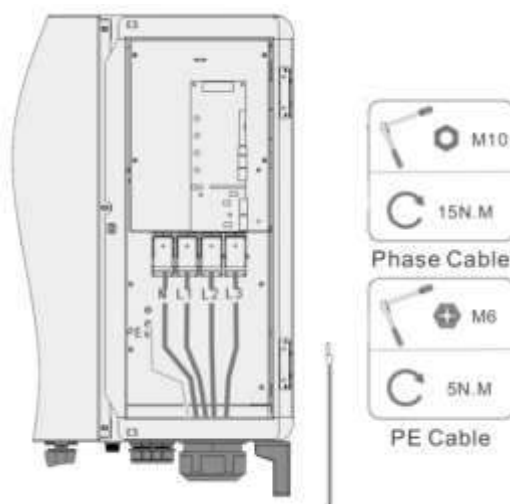

Fig. 4-33 Secure the wires
- 6) Secure the wires to corresponding terminals (Fig. 4-33).